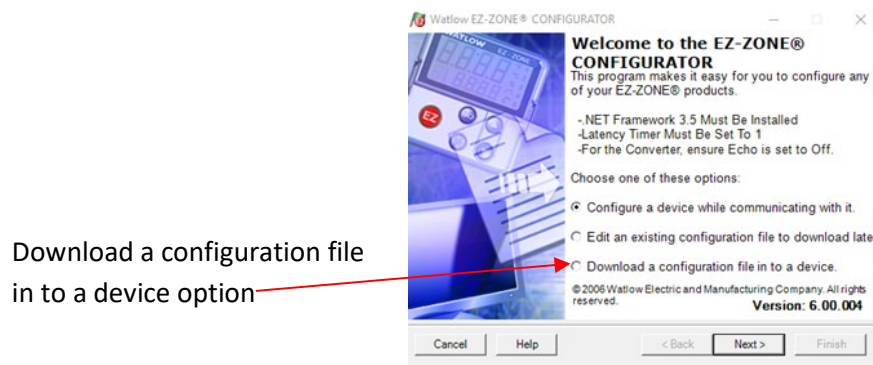

Figure 52: Watlow Options on Welcome Screen
16. To reset the Watlow temperature control unit in the future, select **Download a configuration file in to a device** on the Welcome screen and download this file to the Watlow device. Refer to Figure 52.